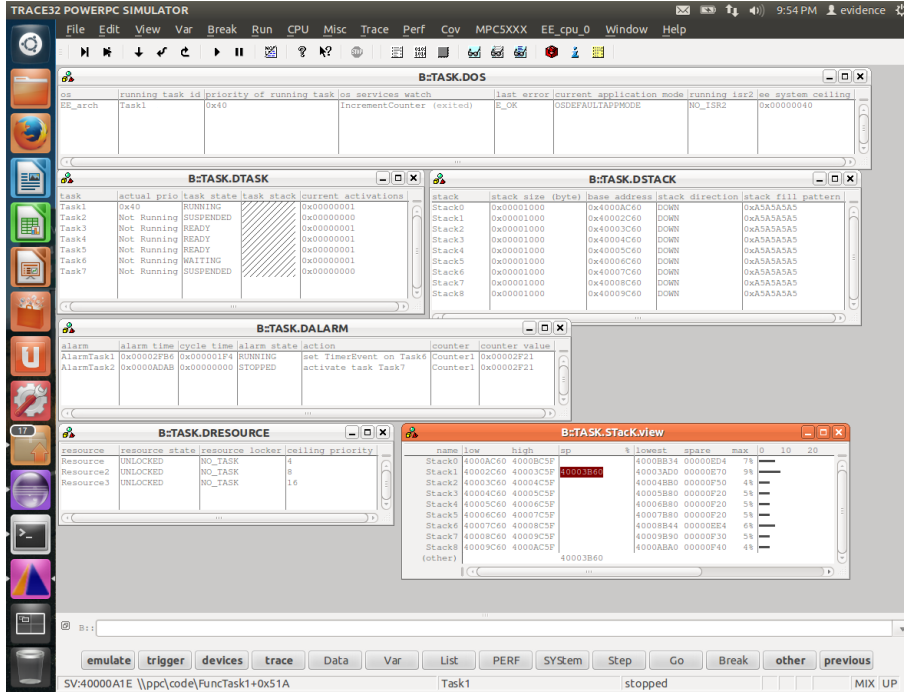

Figure 4.6: The ORTI window of Lauterbach TRACE32. Please note the stack usage view derived from the fillpattern specified in the ORTI file.
- **ORTI:** shows the basic OSEK / ORTI views provided by the TRACE32 RTOS awareness, for real time, non-intrusive display of OSEK system resources, including stack space usage. A screenshot of this window is available in Figure 4.6.